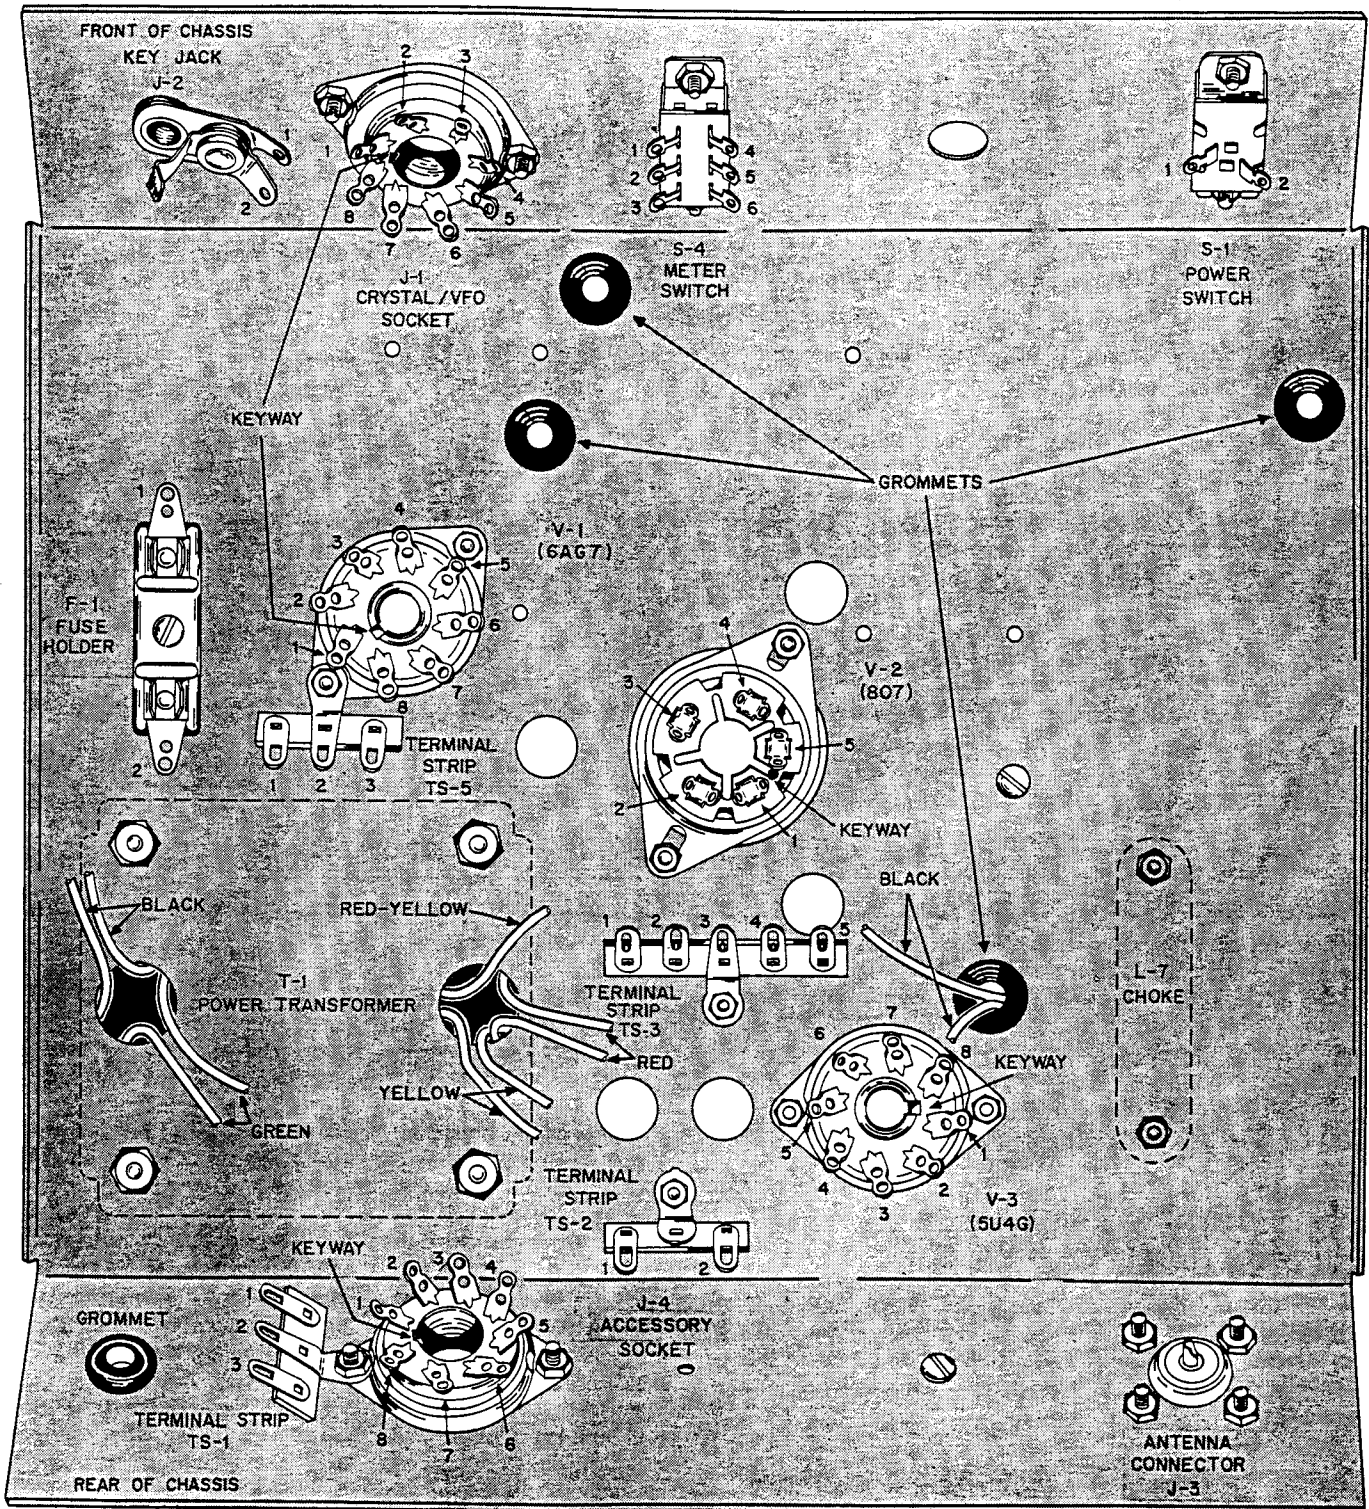

FIGURE 1. MOUNTING THE PARTS UNDERNEATH THE CHASSIS
SEE FIGURE 1.
- Insert a rubber grommet in each of the five holes marked "GROMMET" on Figure 1. Grommets are installed by squeezing them into place.
- T-1 is the large transformer. Referring to Figure 1, locate the position in which T-1 is mounted on top of the chassis. Begin mounting T-1 by pushing the two green and two black wires through the large hole near the corner of the chassis. Push the two yellow, two red and the red-yellow wires through the other hole. Fasten T-1 with four 8-32x $\frac{1}{4}$ " screws through the top of the chassis; put a lockwasher on each screw before tightening the nuts.
- Referring to Figure 1, locate the position for mounting L-7, the filter choke, on top of the chassis. The side with the wires must be toward the grommet. Fasten L-7 with two 6-32x $\frac{1}{4}$ " screws, lockwashers, and nuts. Push the two wires through the grommet.
- Mount J-2, a phone jack, in the round hole next to J-1. Use a $\frac{3}{8}$ " hex nut to retain J-2. Position the terminals as shown in Figure 1.